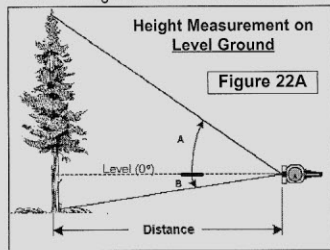

Figure 22A
2. Apply height calculation as shown in Figure 22A or 22B.
1. Sight % Grade using level or sloping ground, same as in Figures 22A & B, p. 11.